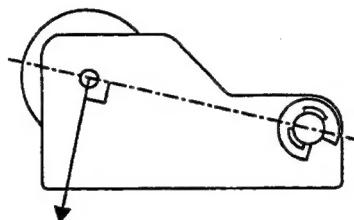

Fig. 2-1
3. Pull the spring scale in direction indicated in Fig. 2-1 until the pinch roller fully loses contact with the capstan shaft; then slowly ease the scale so the pinch roller moves back toward the capstan shaft.